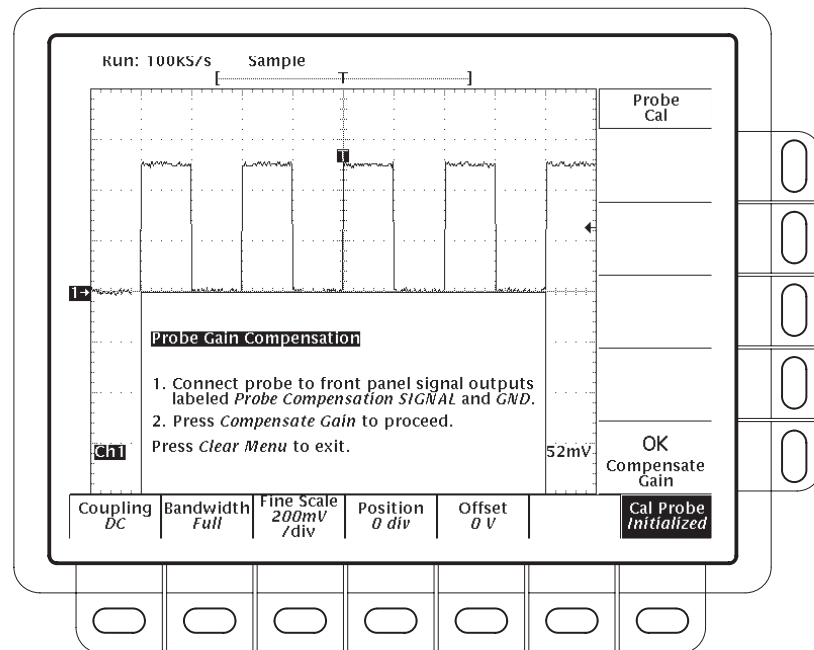

Figure 3-44: Probe Cal Menu and Gain Compensation Display
**STOP.** Your oscilloscope will detect the type of probe you have installed and display screen messages and menu choices for compensation of probe gain, offset, or both (see Figure 3-44). The following steps will have you run probe gain, offset, or both depending on the probe the oscilloscope detects.
18. After the clock icon is removed, verify the word **Initialized** changed to **Pass** under **Cal Probe** in the main menu. (See Figure 3-44.)